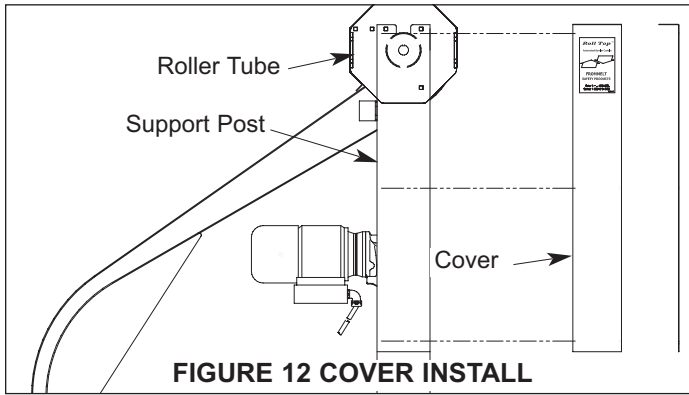

FIGURE 12 COVER INSTALL
- After unit is functional, use the (12) 3/8" bolts and nuts provided to fasten shroud to the bearing plates, Figure 12.